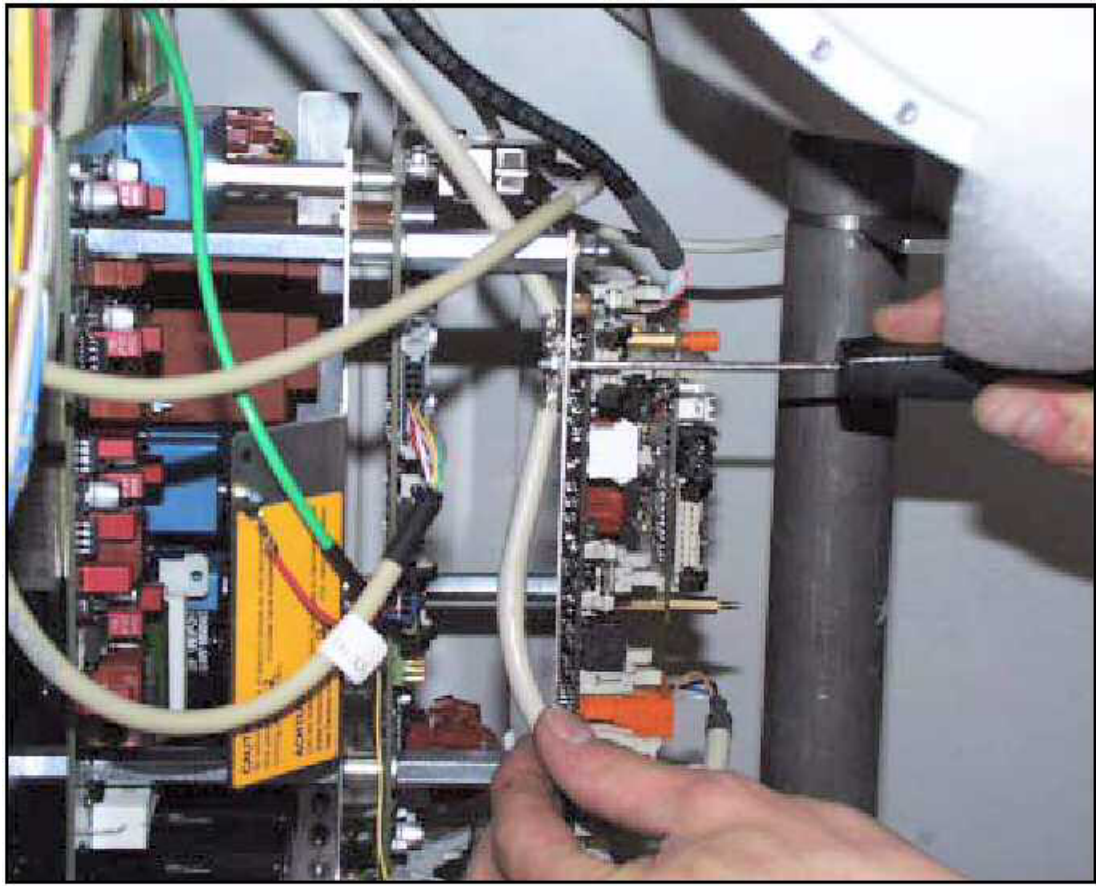

Fig. 18: Shielding connection D200
- On D30, reconnect plug D30.X12 to D200.X112 on interface PC board D200. For this purpose, slip the cable out of the existing shielding and reconnect it to the shielding at D200 (interface) (Fig. 18 / p. 27). Retighten the shielding on PC board D30.